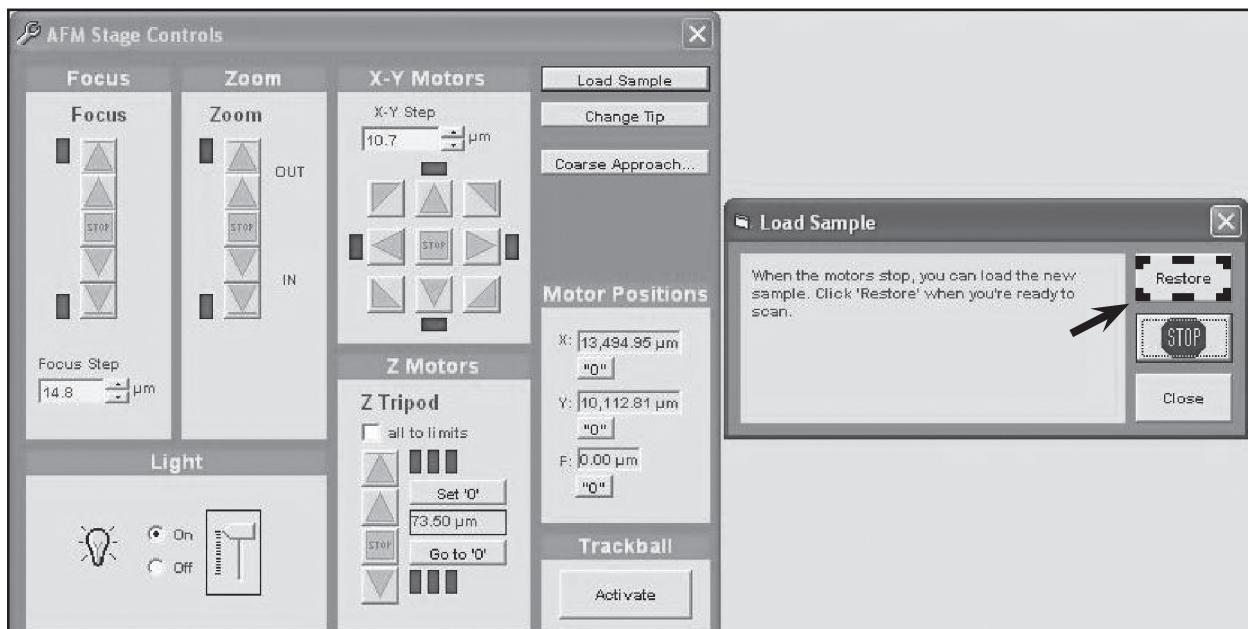

Figure 3.23: Return sample puck to initial X-Y position
9. Click the Restore button on the Load Sample wizard. The motorized X-Y stage will return the puck to its original position (Figure 3.23).